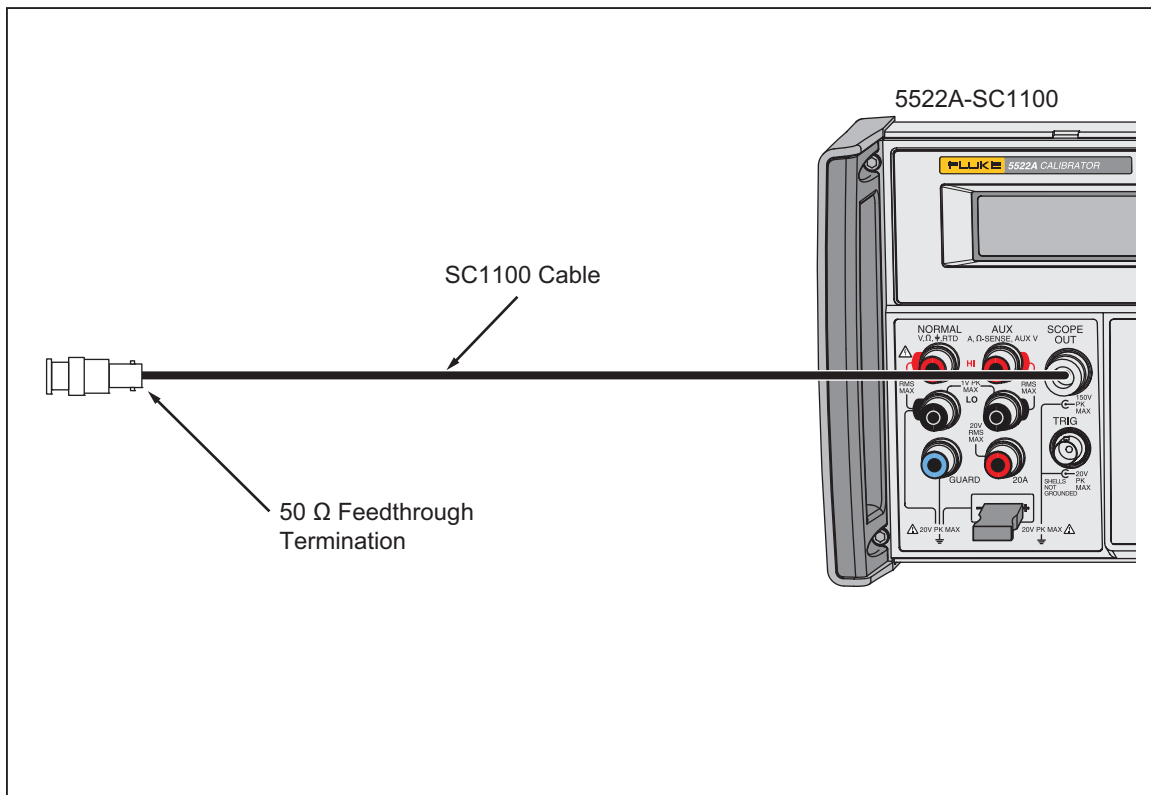

Figure 7-15. Overload Function Verification Connections
- Connect the output cable and 50  $\Omega$  feedthrough termination to the Calibrator as shown in Figure 7-15.